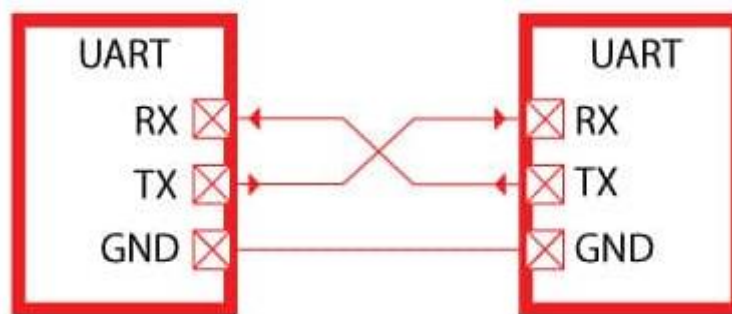

Fig. 3.9: UART Interfacing
- For proper communication, the Transmit line (TX) of the sending device should be connected to the Receive line (RX) of the receiving device.
- Figure 3.9 illustrates UART interfacing.